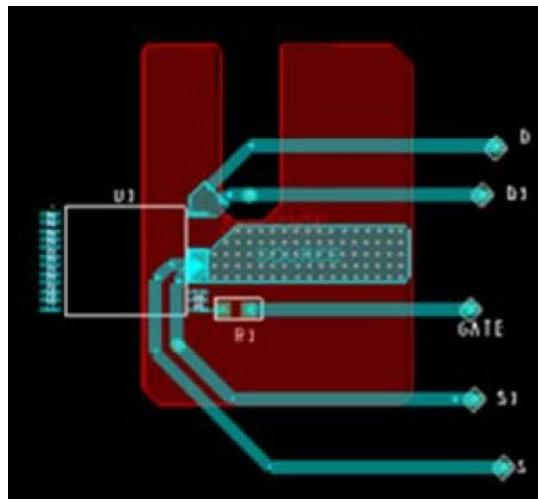

Figure 23. Thermal Resistance Test Conditions for PowiGaN Devices (INN3678C, INN3679C and INN3670C.)
Testing performed on custom thermal test PCB as shown in Figure 23. The test board consists of 2 layers of 2 oz. Cu with the InSOP package mounted to the top surface and connected to a bottom layer Cu heat sinking area of 550 mm2.
4. Please see Figure 23.